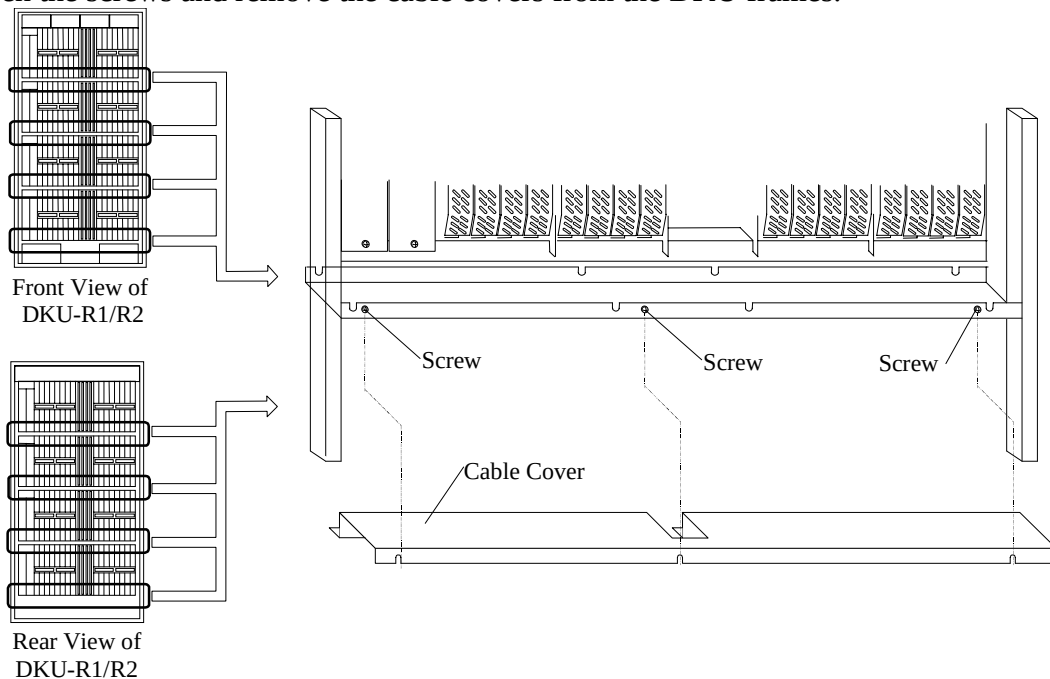

Fig. 3.11.11-9 Removal of Cable Covers
- c. Connect the DEV interface cables to the FSW PCBs in the DKU-R2 frame referring to Fig. 3.11.11-10 through Fig. 3.11.11-13.